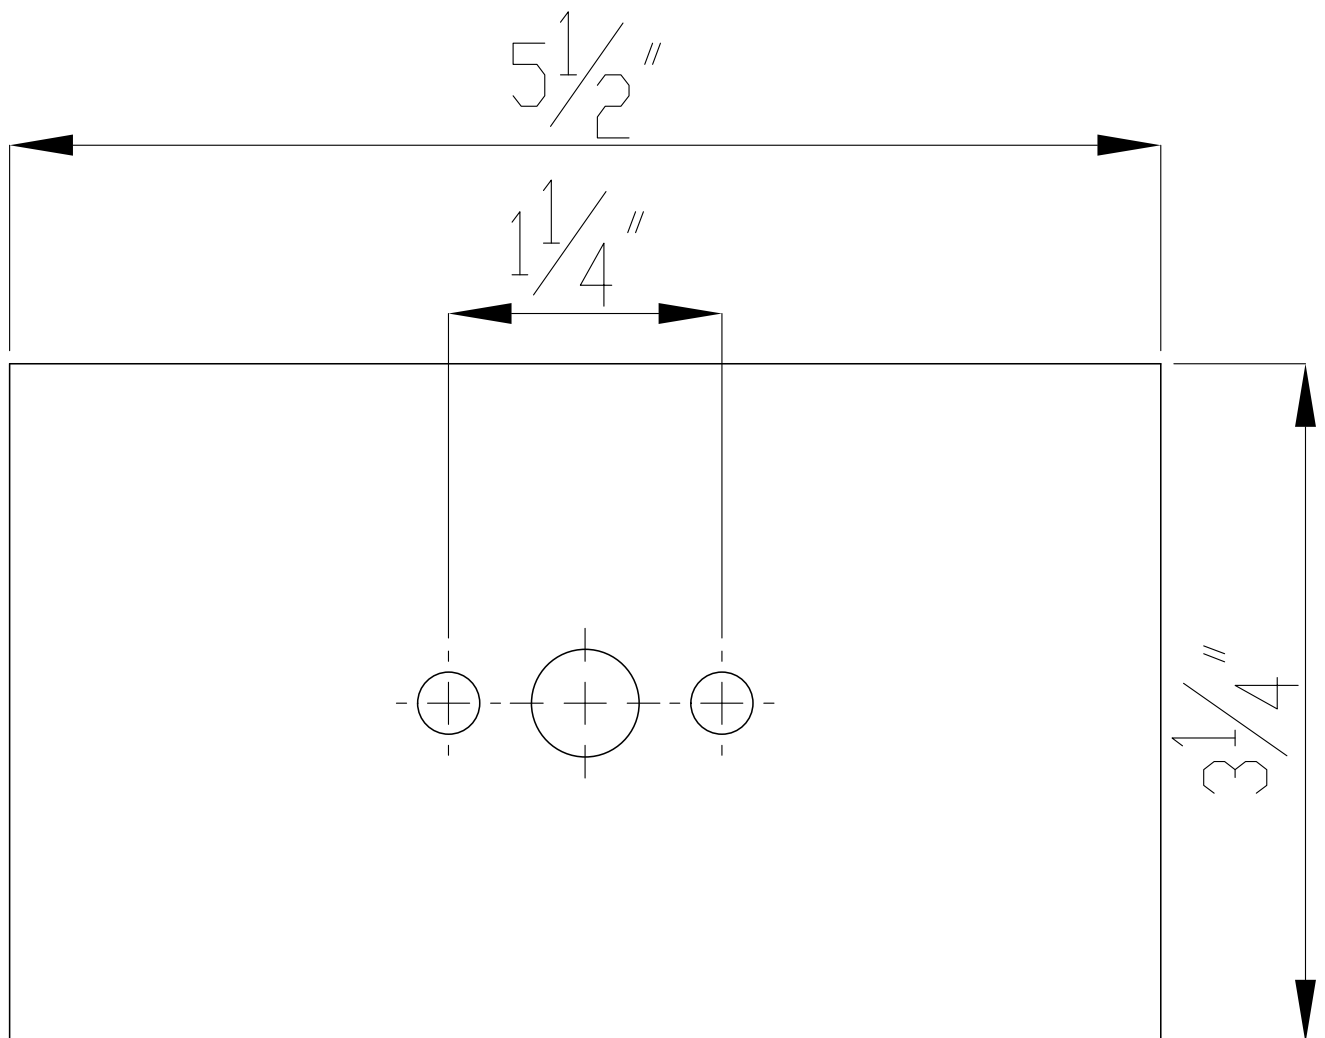

Fig. 1
2. Install a 12VAC output magnetic transformer in an accessible location, and run low voltage outdoor power cable (A) from the transformer to the desired bollard location in accordance with local codes. To avoid excessive voltage drop, you must use power cable with appropriate wire gauge for the distance and load of your system. The bollards can accept an input voltage from 10 to 15VAC.
3. **For Concrete Mounting:** Using the provided temporary template (Fig. 1), cast the anchor bolts (B) and low voltage outdoor power cable (A) into a concrete footing (C). Arrange the anchor bolts so at least 1/2" of threaded and no unthreaded length is exposed above the concrete. Arrange the power cable so that it is in the center of the template, with at least 6" of cable exposed above the concrete.
4. **For Concrete Mounting:** Once the concrete (C) has fully cured, remove and discard the template.
5. **For Concrete Mounting:** Place mounting plate (D) over the anchor bolts (B) and power cable (A). Secure with mounting nuts (E).